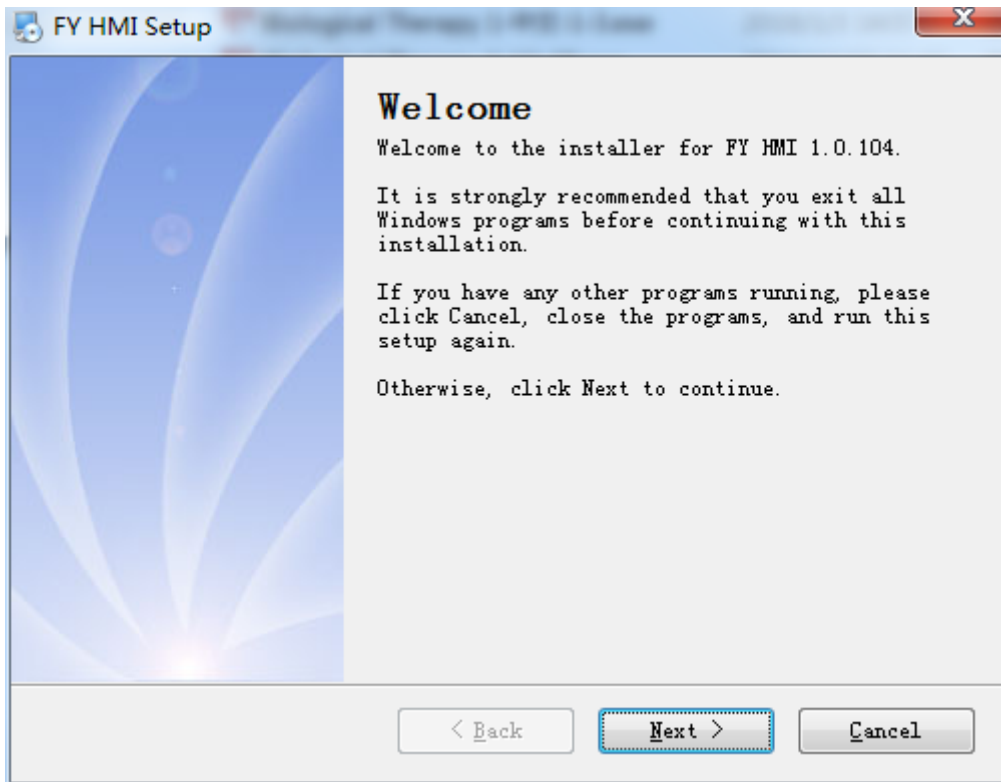

Figure 4-1
2. start installation. Unzip the downloaded zip file to get FY HMI.exe, double-click FY HMI.exe to start installing the software. The welcome screen is shown in Figure 4-1: